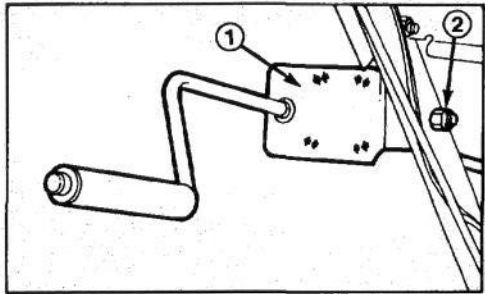
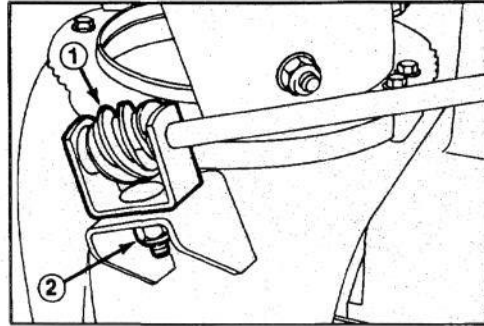

Figure 9
Figure 10
1. Assemble chute control bracket and rod to left side of handle with capscrew and locknut. Leave locknut loose until assembly is completely mounted (Fig. 9).
2. Apply No. 2 general purpose grease to worm gear. Mount worm gear and bracket to mounting flange and secure with pyramidal washer and locknut (Fig. 10).
3. Push worm firmly against teeth in chute retaining ring and tighten locknut (Fig. 10). Then, tighten locknut to secure chute control bracket against left handle (Fig. 9).